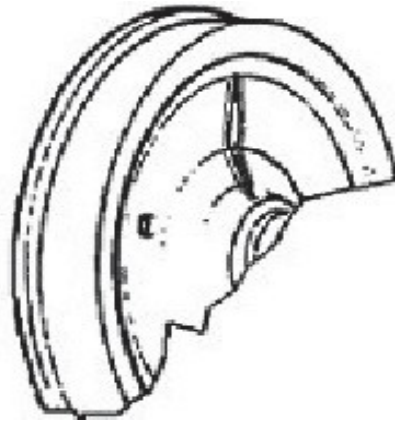

Figure 15
- sharp-edged radial defect on the web. This type of defect is shown in Figure 15